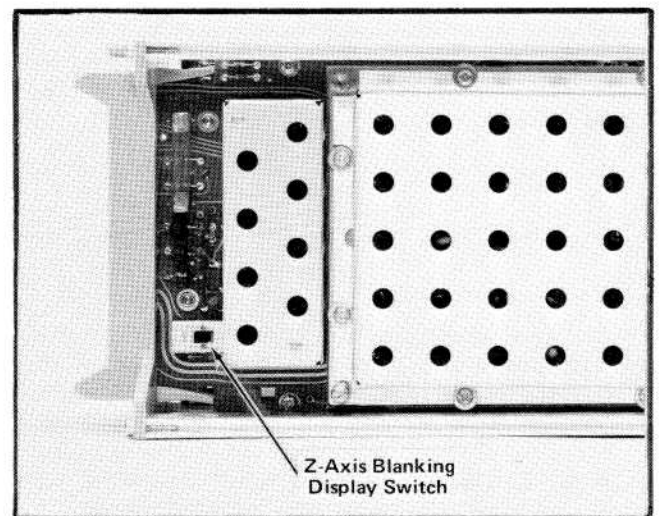

Fig. 1-6. Location of Z-Axis Blanking Display switch (on left side of unit). The switch position towards the rear of the unit selects Z-axis blanking.
**Z-Axis Blanking.** Z-axis blanking provides an on-screen display of the approximate delay interval. This is accomplished by blanking out the CRT display during the delay interval. Z-axis blanking can be obtained with the 7D11 installed in any plug-in compartment. The Z-axis blanking display is selected by a slide switch located inside the unit (on the left side; see Fig. 1-6).